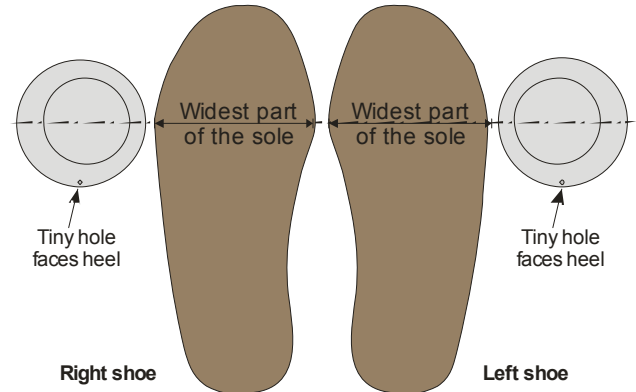

Fig. 2: Orientation and placement of the large disk.
6. Put the 3-inch disks next to the widest part of the sole of each shoe, with the adhesive side facing down (Fig. 2).
7. Rotate each disk so that the tiny through-hole near the periphery points toward the heel, as shown in Fig. 2. Don't confuse that tiny through-hole with the micro-grooves that are visible only on the adhesive side of the disks.
8. Temporarily place the disks onto the shoe soles, adhesive side down, so that they match the location in Figs. 2 & 3.